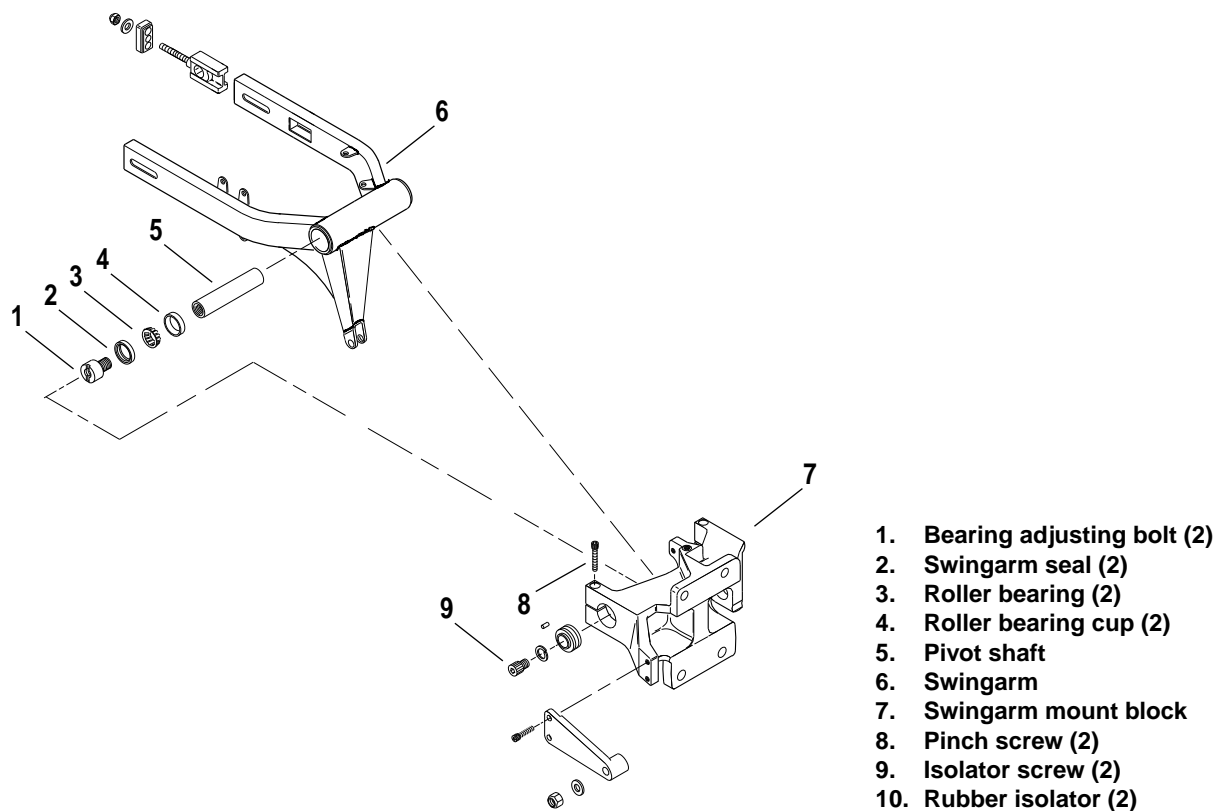

Figure 2-37. Swingarm Assembly and Swingarm Mount Block
17. See Figure 2-37. Remove isolator screws (9) and washers on each side.
18. Slowly raise floor hoist until rubber isolators (10) can be removed. Frame will rise while engine and swingarm remain secured to lift by crating strap.
19. Loosen one pinch screw (8) on the swingarm mount block (7).
20. Remove bearing adjusting bolt (1) on that side with PIVOT SHAFT BEARING ADJUSTER \(Part No. B-41175\).
21. Loosen the remaining pinch screw. Extract pivot shaft (5) and second adjuster as an assembly.
1. See Figure 2-37. Remove and discard swingarm seal (2).
2. Remove roller bearings (3).